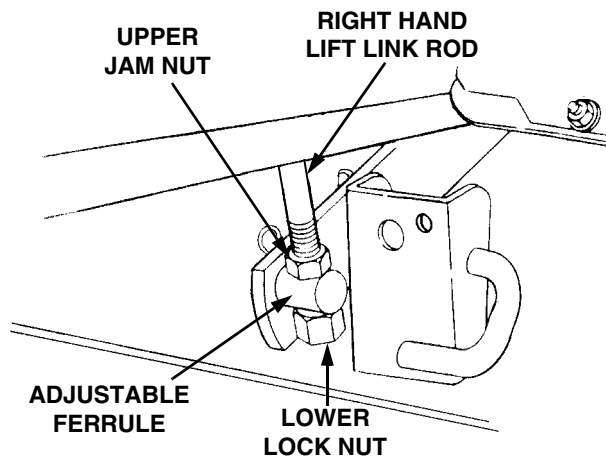

Figure 29
- Side-to-side leveling is obtained utilizing the adjustment ferrule and right hand lift link rod (See Figure 29).
- Loosen the upper jam nut on the lift link rod and turn away from the adjustment ferrule. Turn the lower lock nut upward (tighten) on the threads of the rod to raise the right side of the mower deck. Turn the lock nut down (loosen) on the threads to lower the right side of the mower deck (Refer to Figure 29).